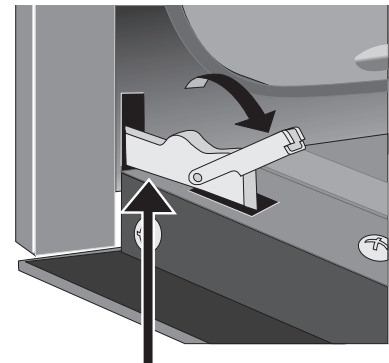

Figure 41: Unlock hinges to remove door
2. Pull the hinge locks on both left and right hinges down from the oven frame completely towards the oven door (Figure 41). A tool such as a small flat-blade screwdriver may be required.